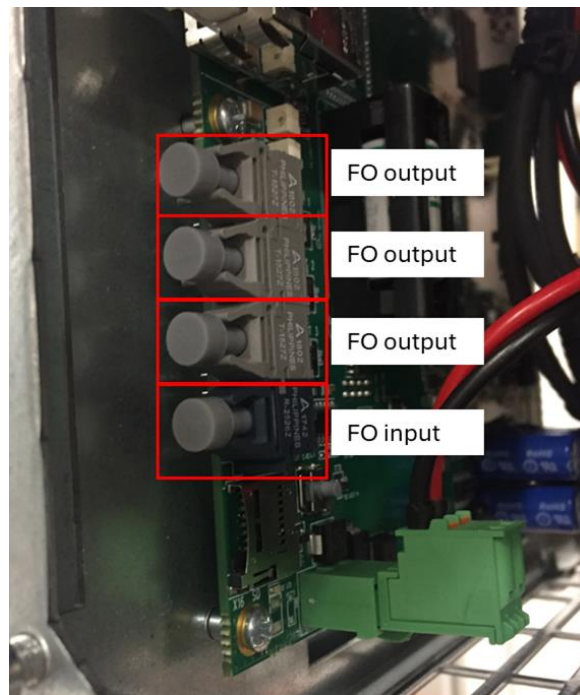

Figure 30: FO connection on MCC-card
In some applications (such as A2-HPQ), there is a need for fast communication methods between the installed A2 modules. For this purpose, there is a fibre optic (FO) communication possibility in the MCC card. The connection points are presented in Figure 30.